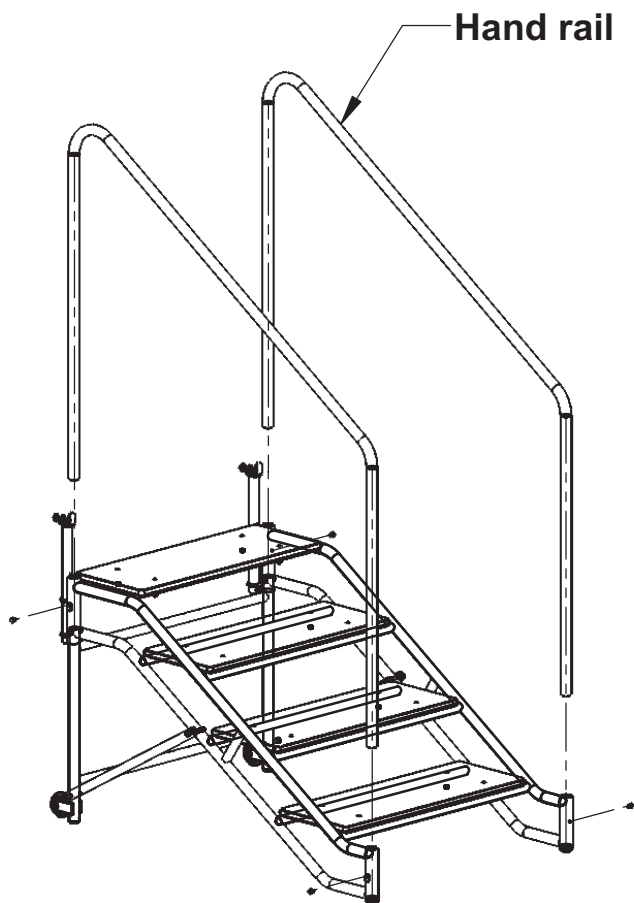

Fig.5
7. Install the *hand rails* by inserting them into the sleeves as shown in Fig. 5.